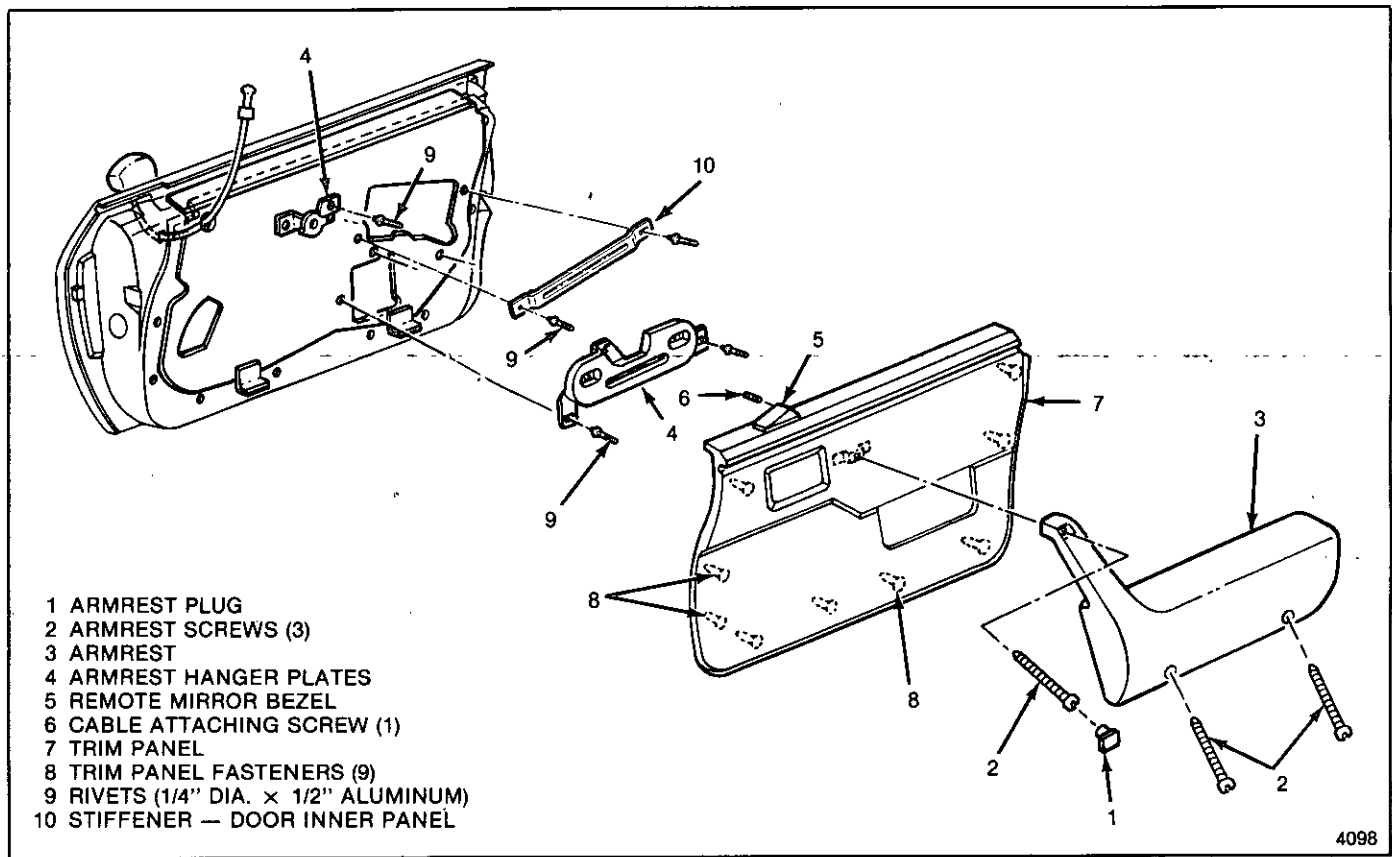

Fig. 5-1-Door Trim Panel and Armrest
##### Remove or Disconnect (Figure 5-1)
##### Install or Connect (Figure 5-1)
↔ Remove or Disconnect (Figure 5-1)
**↔ Install or Connect (Figure 5-1)**
- Screw (6)
3. Panel (7)
- Align retainers (8) with holes